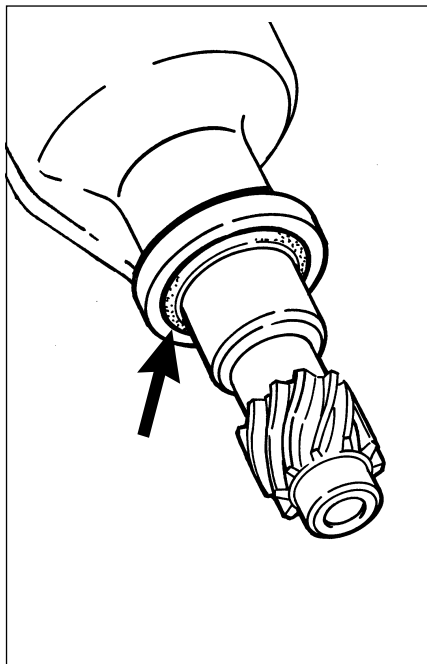

Fig. 3
- **For 1.6 l engine, Fig. 3**